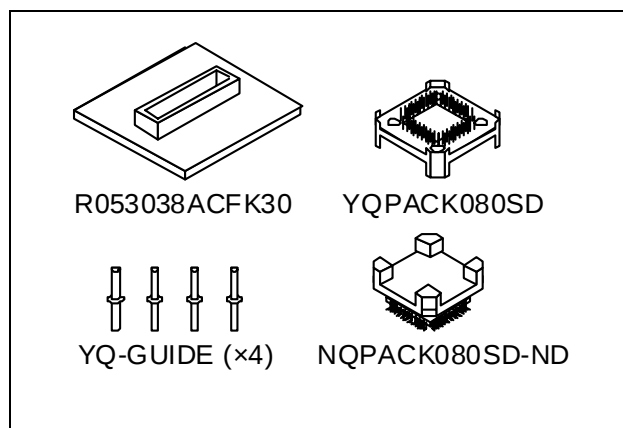

Figure 1 Package components of the R0E53038ACFK30
2. Package Components (See Figure 1)